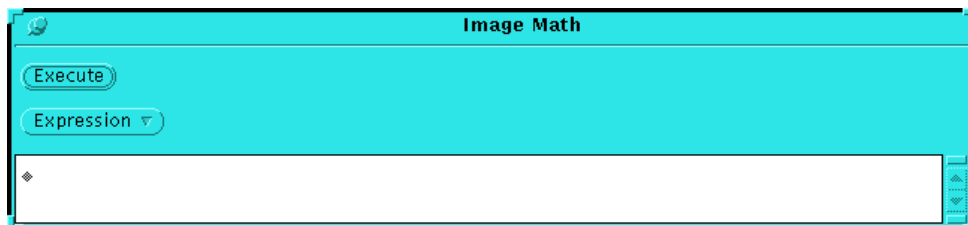

Figure 47. Image Browser Math Panel
1. Select the Image Browser Math choice from the Process menu in the Image Browser control panel. The Image Math window shown in Figure 47 is displayed.